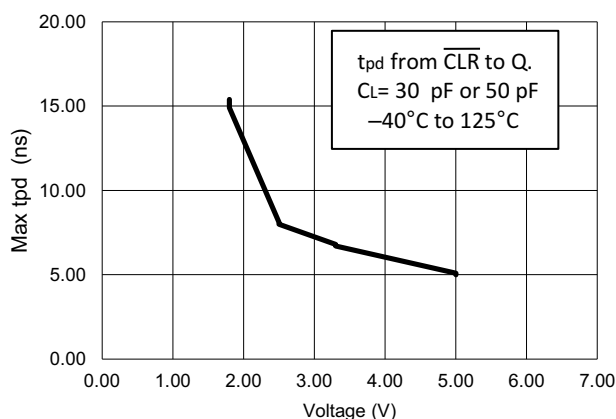

Figure 5. Max tpd vs Voltage of LVC Family
- The effects of frequency upon the output current should be studied in Figure 5.